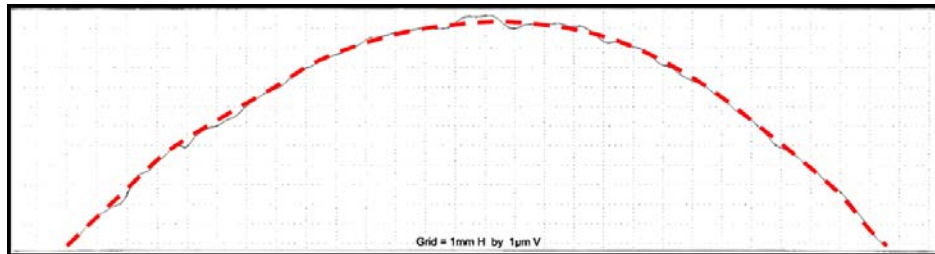

Figure 9 - Example of an Acceptable Lifter Trace
4.13.4. An example of a profile trace from an acceptable lifter can be found in Figure 9.